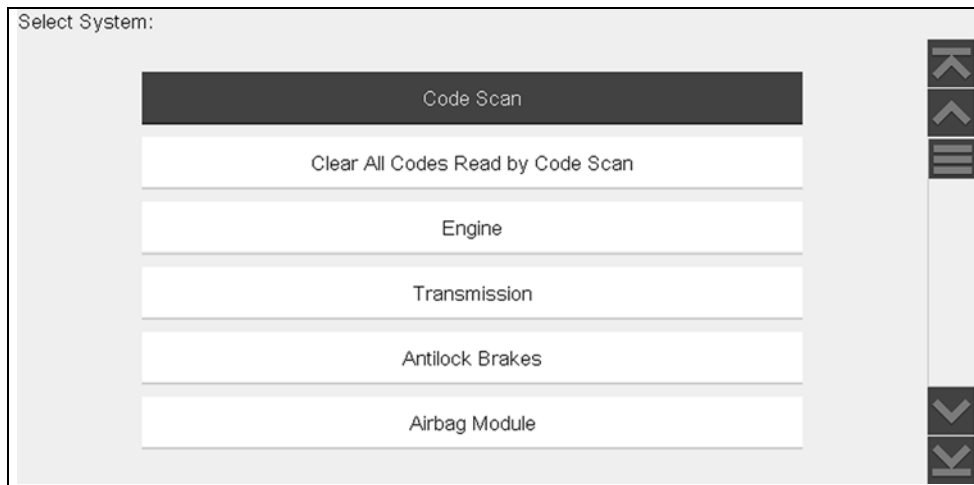

Figure 5-4 Typical systems menu
7. After the vehicle is identified, a menu of available systems, and options are displayed. Select a system or option (Figure 5-4).